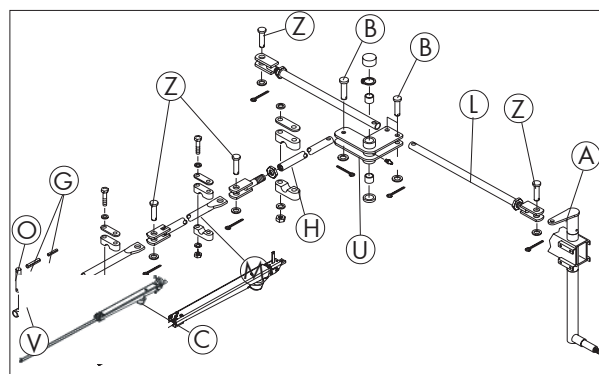

Fig. 3-5
Control levers (A) must face forward in direction of travel (fig. 3-5).